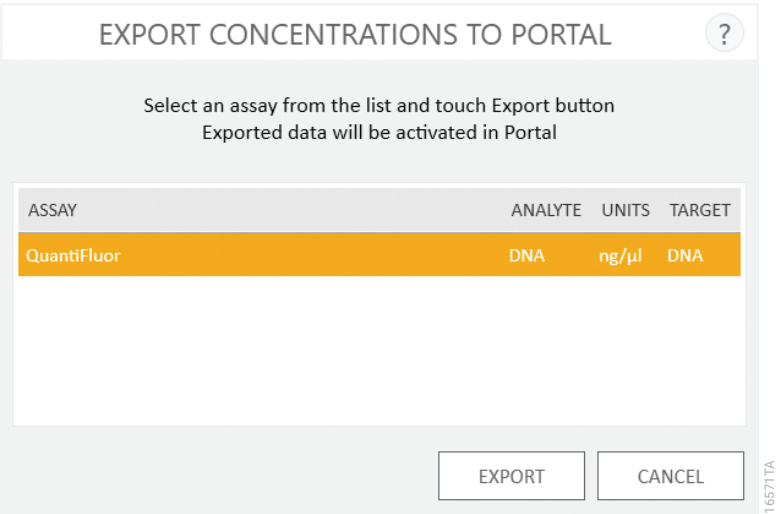

Figure 76. ‘Portal Data Export’ screen. Select the concentration assay into which concentration data should be imported and press the Export button.
2. The 'Portal Data Export' screen (Figure 76) lists all the concentration assays into which concentration data can be imported. Concentration assays are described in the *Portal Access Technical Manual* #TM549. Only assays which have a single concentration target are listed on the 'Portal Data Export' screen. Select the concentration assay into which concentration data should be imported.